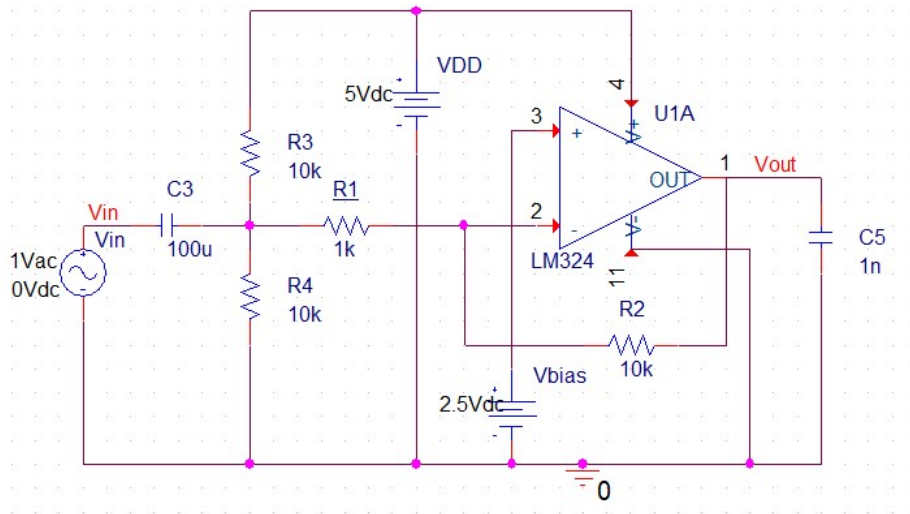

Fig. 6.16 Inverting configuration of LM324
- (2) Record down the open-loop gain and the 3dB pole frequency. The open-loop gain ($A_{\text{open}} = \underline{\hspace{2cm}}$ (dB), $\omega_{3\text{dB},o} = \underline{\hspace{2cm}}$ (Hz)
4. Explore the closed-loop frequency response of Fig. 6.16